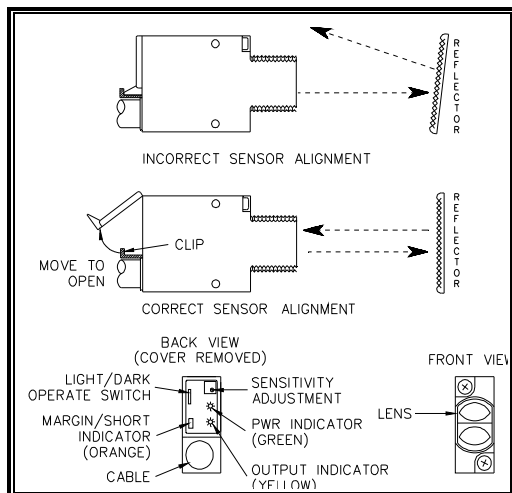

Figure 46 Allen Bradley
3. The rear cover window on the detector must be opened before any adjustments can be made. See Figure 46. Press the flexible retaining clip against the cable to open the window.